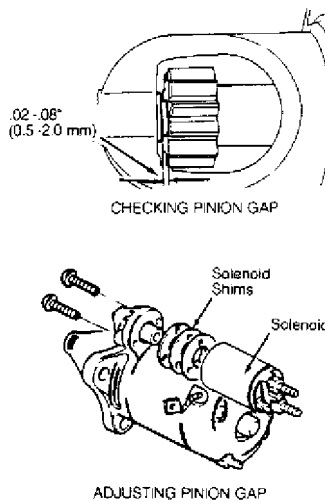

Fig. 3: Checking & Adjusting Pinion Gap
2) Quickly measure pinion gap between end of pinion drive and circlip retainer. See Fig. 3. DO NOT operate starter solenoid for more than 10 seconds. Pinion gap should be .02-.08" (0.5-2.0 mm).